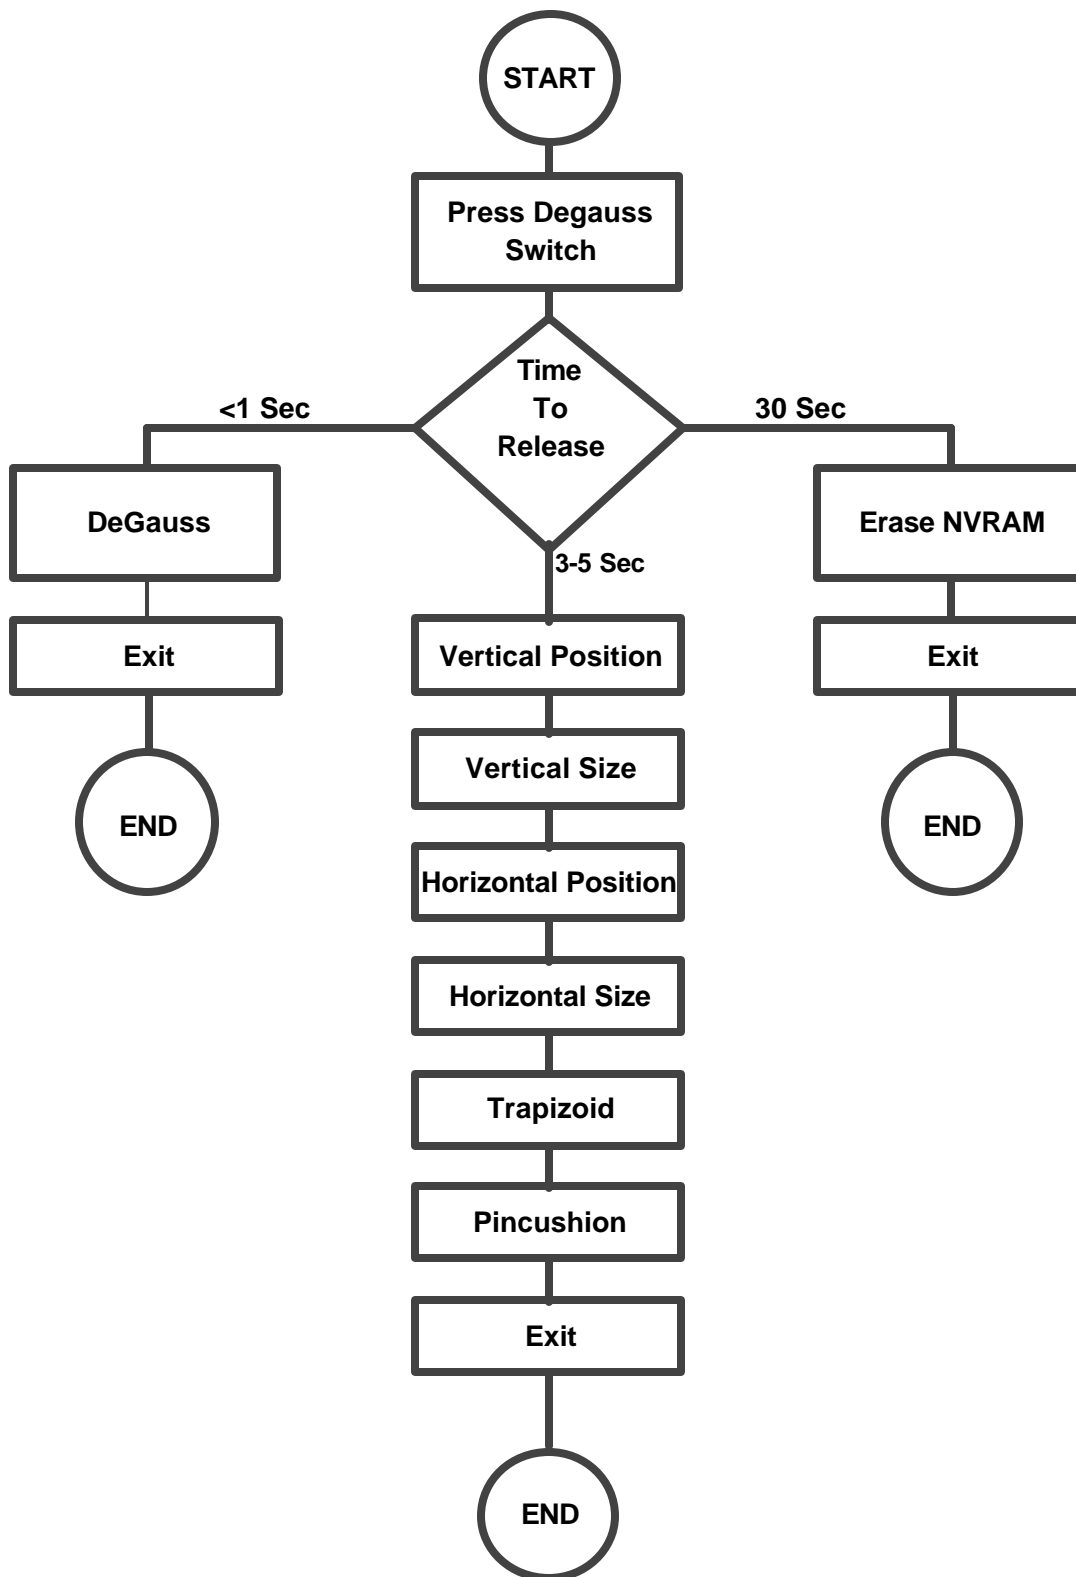

Figure 7: CALIBRATION 1 FLOW CHART
5. Using the observations in step 1, consult the troubleshooting flow diagram (FIG. 7) to isolate the problem to a module or modules.